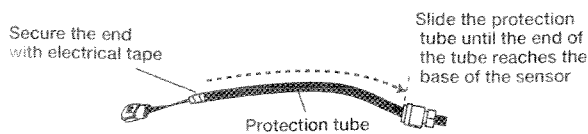

Figure 3-3
3. Slide the protection tube covering the harness of the oil pressure sensor until one end of the tube reaches the base of the sensor. Secure the protection tube by winding electrical tape around the other end of the tube. (Figure 3-3)